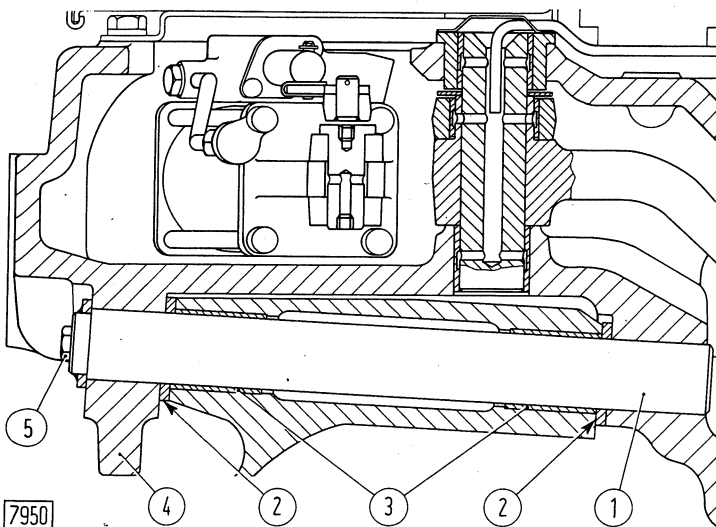

Fig.1 - Cross-section of front axle pivot assembly
- remove the axle and recover from the inside the end washers (2, Fig.1).